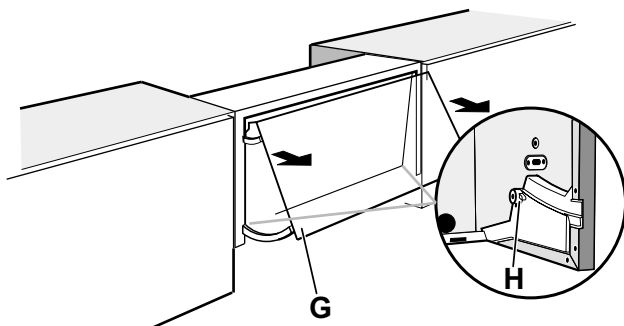

Fig. 13
- Take off the visor **G.** **Fig. 13.**
- Refit the visor. **Fig. 13.**
- Take off the visor **G** by turning the rear locking knobs **H**. **Fig. 13.**
- Turn the rear unlocking knobs **H** so to avoid the visor take off. **Fig. 13**.